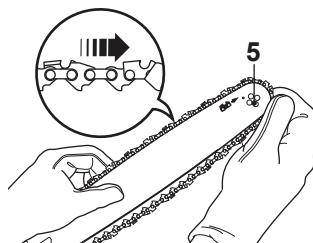

Fig. 6
- > Slide the chain into the groove around the guide bar (Fig. 6).